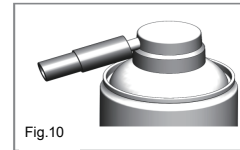
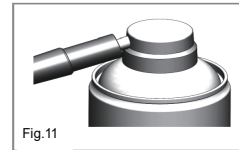

Fig.10
Fig.11
3. To lubricate EVO 450 series handpiece, put Spray Nozzle into nozzle of the lubrication oil can (Fig.10). Connect handpiece with the nozzle (Fig.11) and inject lubrication oil for 2~3 seconds.